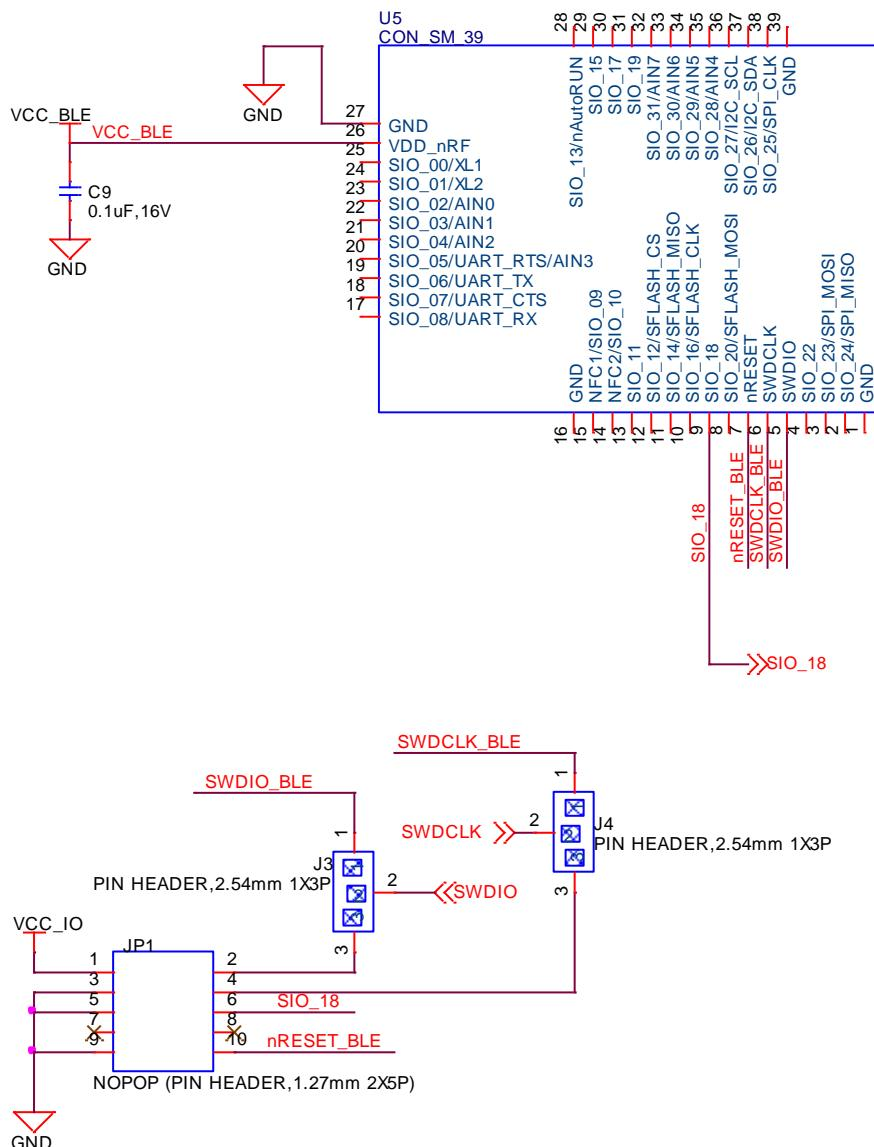

Figure 8: BL652 development board schematic
**Note:** Reference on the BL652 development board schematic (Figure 8) shows the DVK-BL652-xx development schematic wiring only for the JTAG connector and the BL652 module JTAG pins.